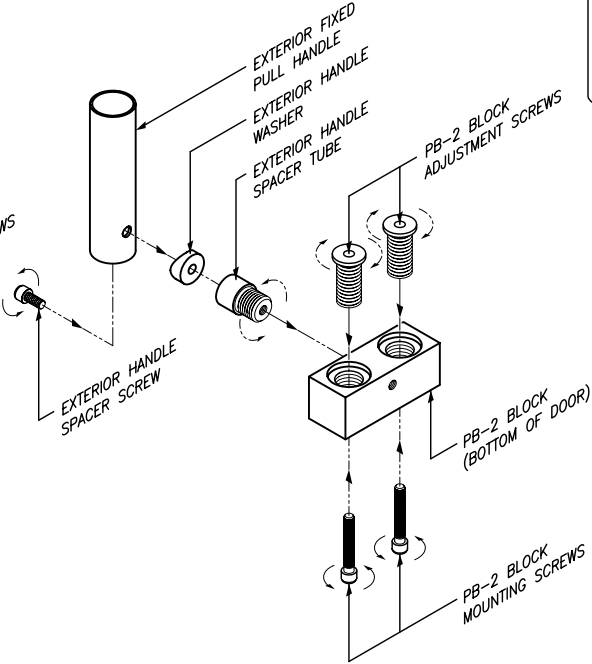

FIGURE 2
4. **(BOTTOM OF DOOR)** SCREW MOUNTING BRACKET INTO PB-2 BLOCK, INSERT 5/16-18 x 5/8" LG. SOCKET HD. CAP SCREW THRU BOTTOM OF FIXED PULL HANDLE, THRU SLOTTED HOLE AND WASHER, SCREW CLOCKWISE INTO MOUNTING BLOCK (FIGURE 2).